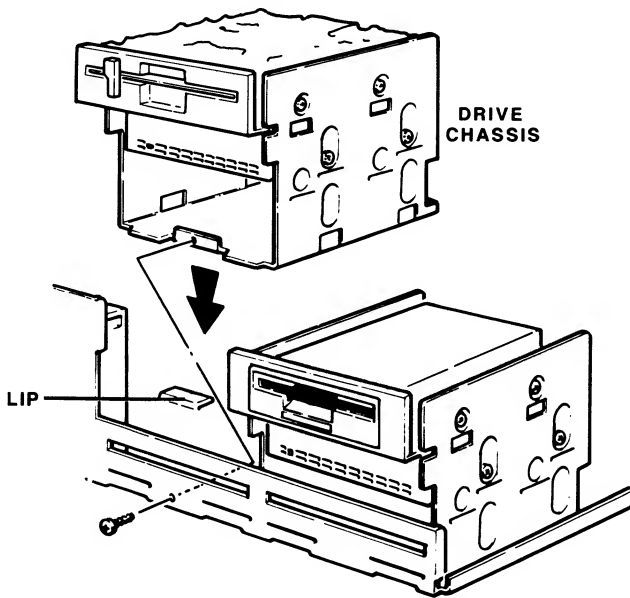

Figure 5-22. Reinstalling the Drive Chassis
9. Reinstall the left drive chassis and drive(s) into the computer by sliding it toward the front of the computer. Make sure it catches the lip on the chassis and that the drives line up with the openings in the front of the chassis. (Refer to Figure 5-22.)